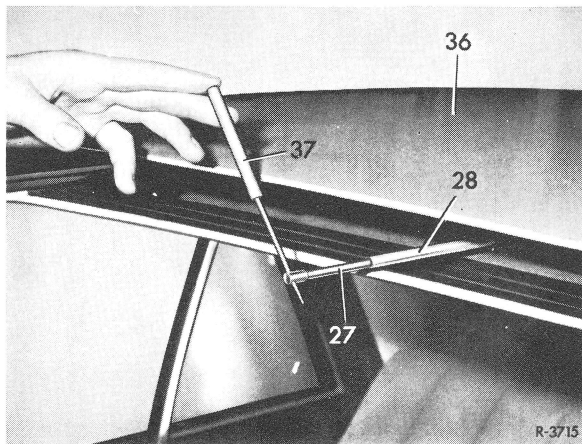

Fig. 1 (shown on Model 114/115)
- 2 Actuate sliding roof switch in direction of "closing", permit teleflex cable control (27) to run completely forward and pull out (Fig. 1).